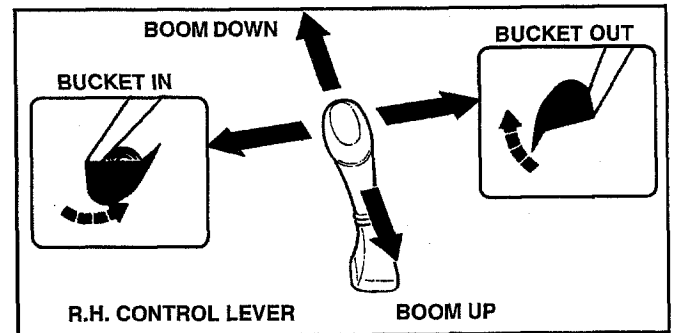

FIGURE 3.17
3. Operate Bucket in and hold over relief for 10 to 15 seconds, then operate bucket out and hold over relief for 10 to 15 seconds. Repeat this operation for 5 to 10 minutes to help oil to reach operating temperature. See Figure 3.17.